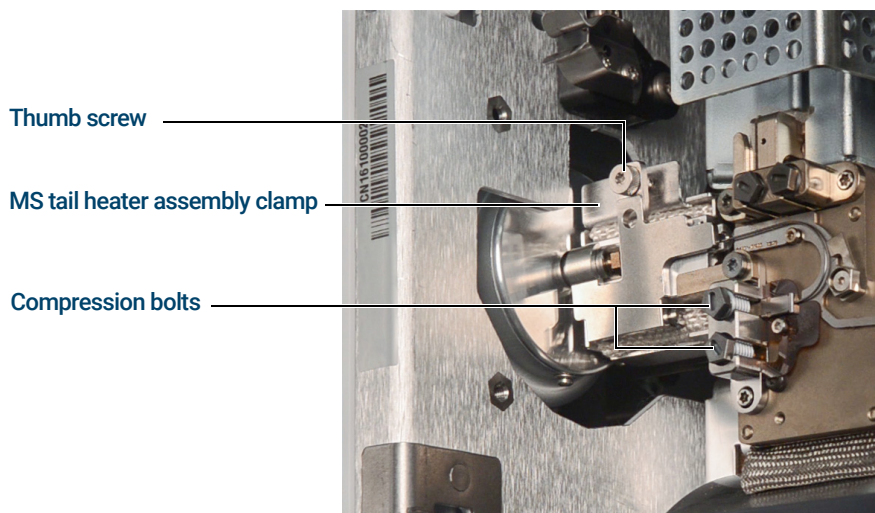

Figure 14. MS tail heater assembly clamp closed
- 9 Using the Intuvo torque driver, remove the compression bolt that secures the 9000 GC/MS Tail click and run bus connection. Also remove the bolt from the empty bus connection. (See **Figure 14.**)